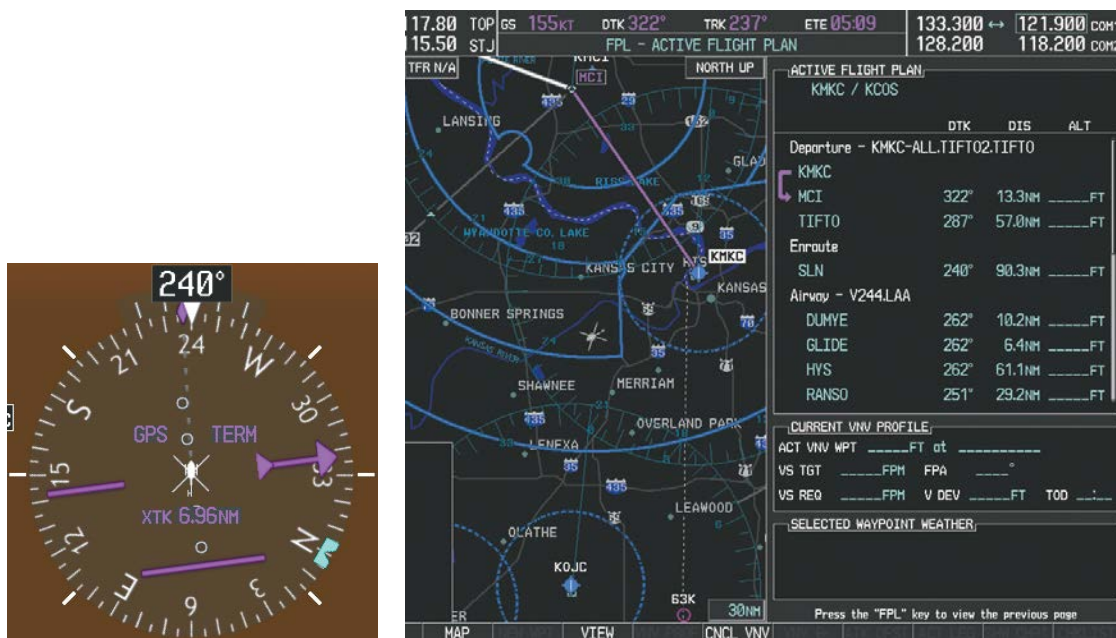

Figure 5-110 Assigned Heading of 240°
- 1) Prior to departure, the TIFTO2 departure, the airways, and the DBRY1 arrival at KCOS are loaded. See the Procedures section for loading departures and arrivals. Note the magenta arrow in Figure 5-110 indicating the active departure leg.
- 2) Figure 5-110 shows the aircraft on the assigned heading of 240°. 'TERM' (Terminal) is the current CDI flight phase displayed on the HSI indicating 1.0 nm CDI scaling.